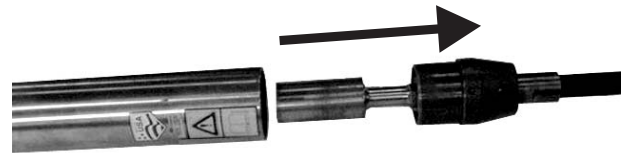

Figure 8-3. Removing Tail Assembly.
ing the Tail Assembly from the Body/Anvil (1) as shown in Figure 8-3.